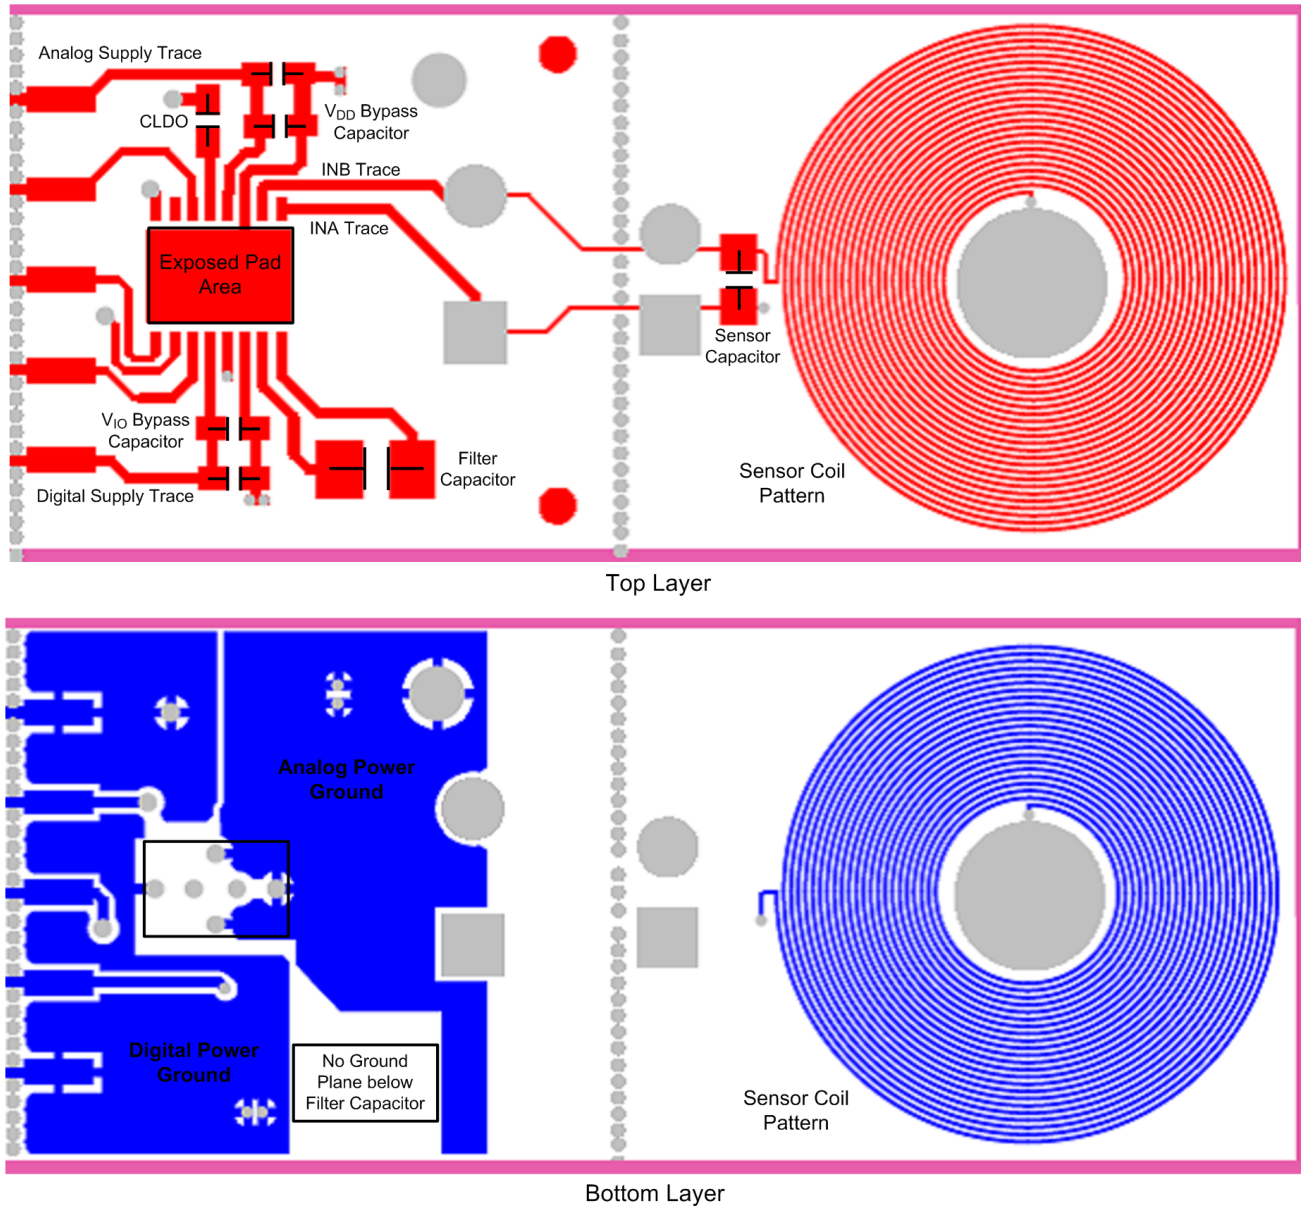

Figure 22. LDC10xx Board Layout
- The optimum placement is closest to the VDD/VIO and GND/DGND pins of the device. Take care to minimize the loop area formed by the bypass capacitor connection, the VDD/VIO terminal, and the GND/DGND terminal of the IC. See Figure 22 for a PCB layout example.
- Use of two separate ground plane for GND and DGND is recommended with a start connection. See Figure 22 for a PCB layout example.